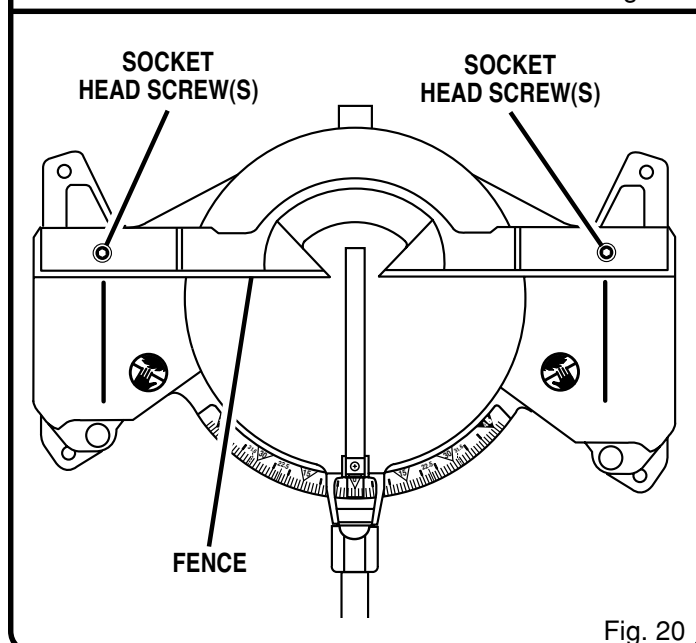

Fig. 20
- Using the wrench provided, loosen the socket head screws securing the fence. See Figure 20. Adjust the fence left or right until the framing square and blade slot are parallel.